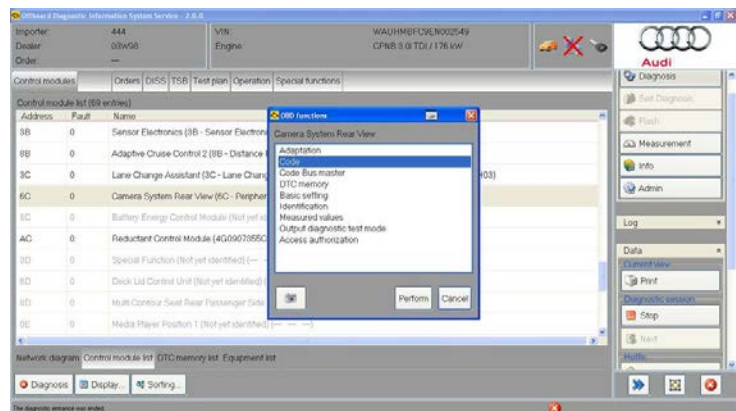

Figure 3. Selecting Code.
- b. Choose *Code* from the menu (Figure 3). The tester will state that the operation failed. Click past this warning message and proceed.